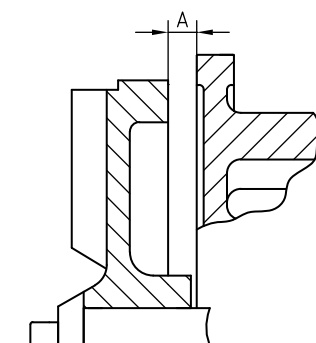

Figure 17: Adjusting the impeller FRES.
- 2 Adjust the impeller to size **A** between the rear of the impeller and the intermediate cover. See figure 17 and Table 6 below. Preferably use 2 calibrated rulers.